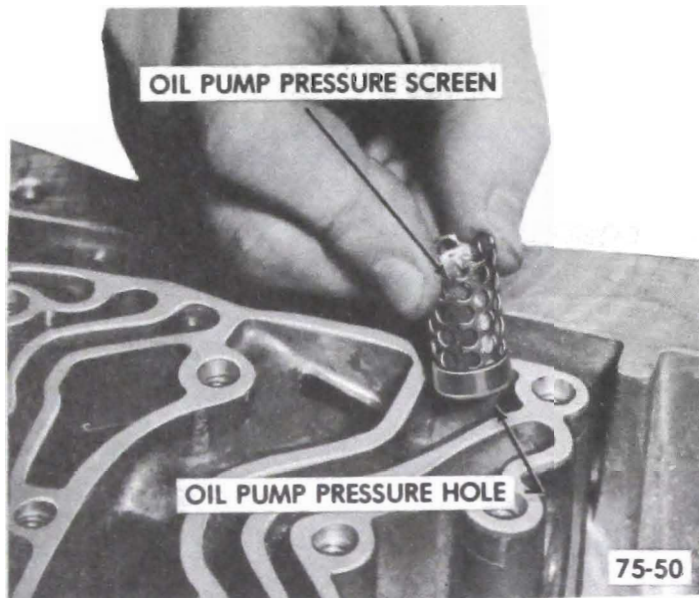

Figure 75-79
1. Remove oil pump pressure screen from oil pump pressure hole in case, and clean. See Figure 75-79.